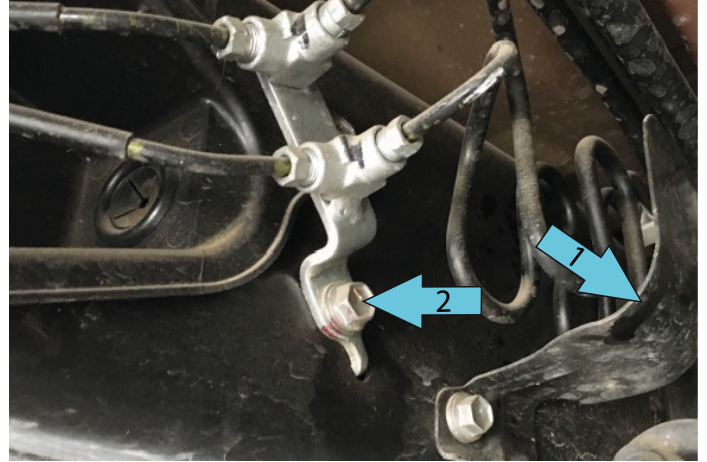

Fig.6
6. Remove left side factory brake line protection bracket (1) and bolt securing brake line bracket (2) as shown in fig.6.